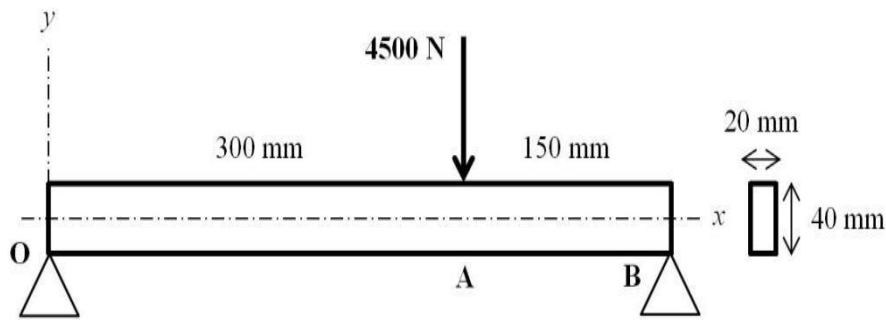

Figure 1/ Rajah 1
- b. **Figure 1** shows a beam supported at point O and B with a force acting at point A. Calculate :